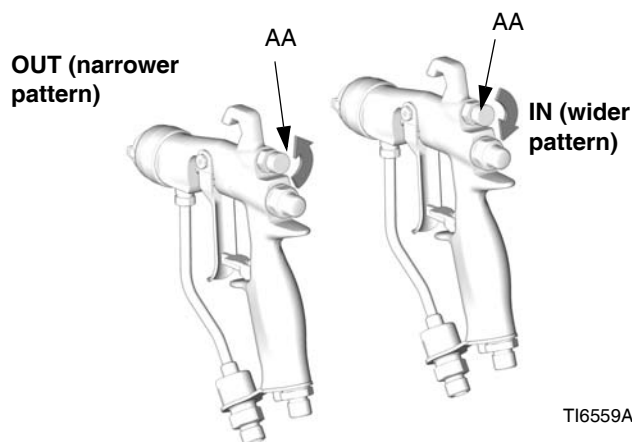

FIG. 5. Pattern Air Knob
1. See FIG. 5. Close off pattern adjustment air by turning knob (AA) clockwise (in) all the way. This sets gun for its widest pattern.
3. See FIG. 5. For narrower pattern, turn pattern adjustment valve knob (AA) counterclockwise (out). If pattern is still not narrow enough, increase air pressure to gun slightly or use different size tip.